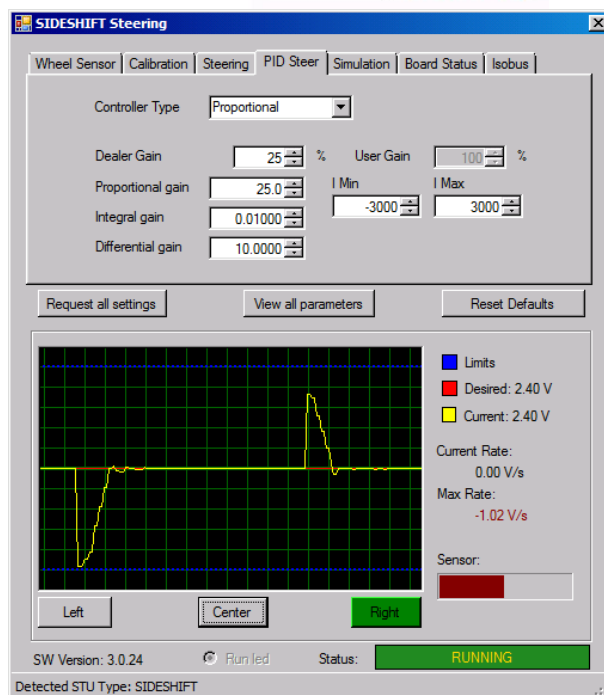

Figure 18 CANTool Side-Shift Steering
open the set-up screen for the CAN Side-Shift steering (Figure 18).
1. In tab named "PID Steer" (Figure 18) select at "Controller Type": "Proportional"